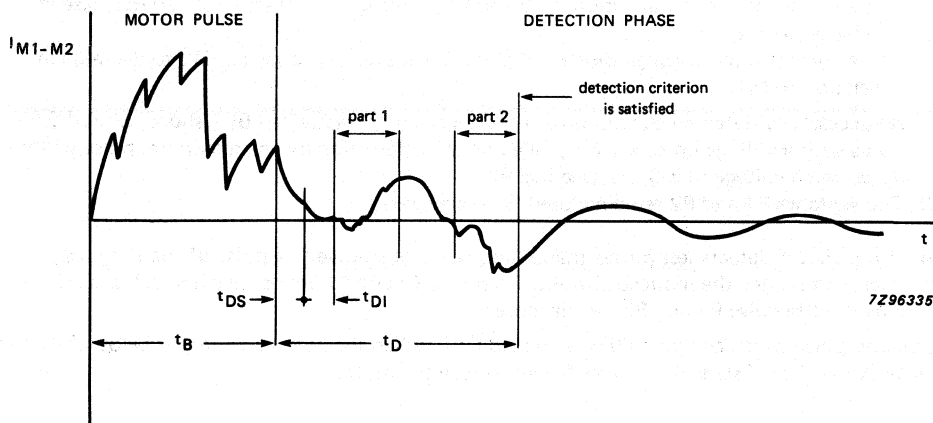

Fig. 7 Typical current waveform of a successfully executed motor pulse.
**Detection criterion (Figs 7 and 8)**